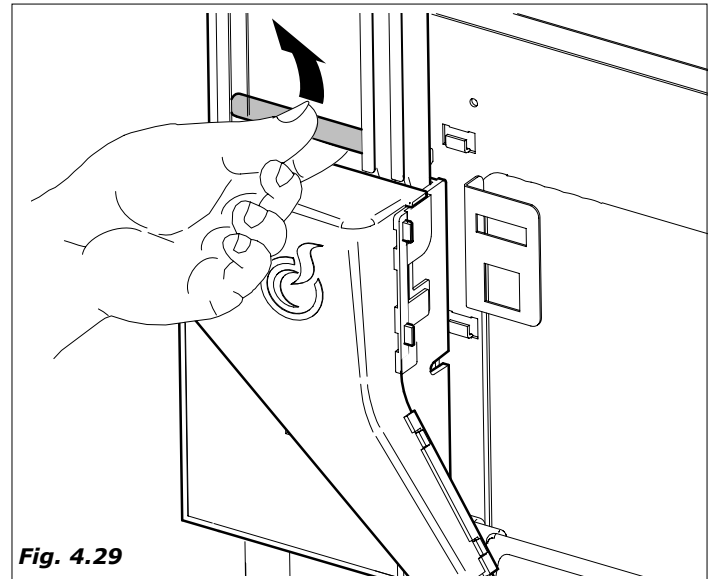

Fig. 4.29
- Remove the metal weight from the spoon dispensing column (Fig. 4.29)